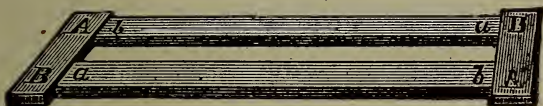

Fig. 66. Two Bar Magnets with Keepers across ends. A represents north pole and B, south pole.
and turning the bar over repeat this on the same end. You now have an N-pole. Then using the N-pole of the magnet stroke the other end of the bar in the same manner. You now have the complete magnet with two strong poles. You have made 40 strokes in all and you need that many, but sitting there stroking for a 100 or more times is wasted energy, for the bar soon becomes saturated and will take up no more magnetism. Then treat the second piece in the same way. Always make two at the same time and keep them by laying them with an N and an S-pole at the same end of the box, separating the magnets lengthwise by a strip of card board, and placing a strip of tinned iron or strap iron across the ends. Laid away separately or with two N-poles side by side they lose strength. Fig. 66.
*Answer.* Bar magnets should be laid side by side, separated by a thin strip of wood, the north end of one and south end of the other at same end. Strips of iron should be laid across the ends so as to touch both magnets as in Fig. 66.